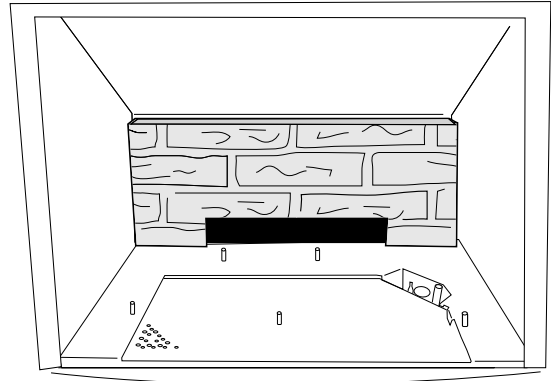

Figure 49. Install Lower Rear Panel
4. **Install the Lower Rear Panel.** Position it up against the back wall, resting on the burner skirt. Fig. 49.